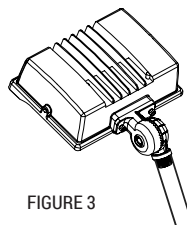

FIGURE 3
**Step 4:** Loosen screws; Adjust fixture angles as per actual demands and tighten screws later; Angles of the fixture is adjustable (pass the bracket through mounting surface, fix it with screws, then connect the wires as per proper wiring requirements. See general wiring diagram. (Figure 3)